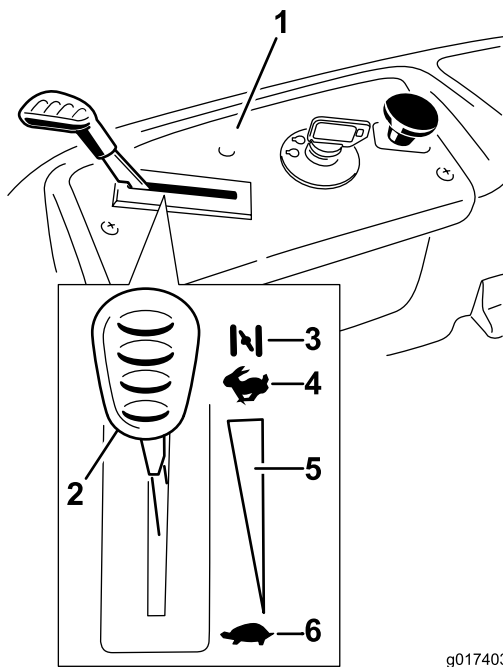

Figure 12
3. Move the throttle lever to Choke before starting a cold engine (Figure 12).
5. After the engine starts, move the throttle lever to Fast (Figure 12). If the engine stalls or hesitates, move the throttle lever back to Choke for a few seconds. Repeat this as required.
3. Turn the ignition key to Off (Figure 12) and remove the key.